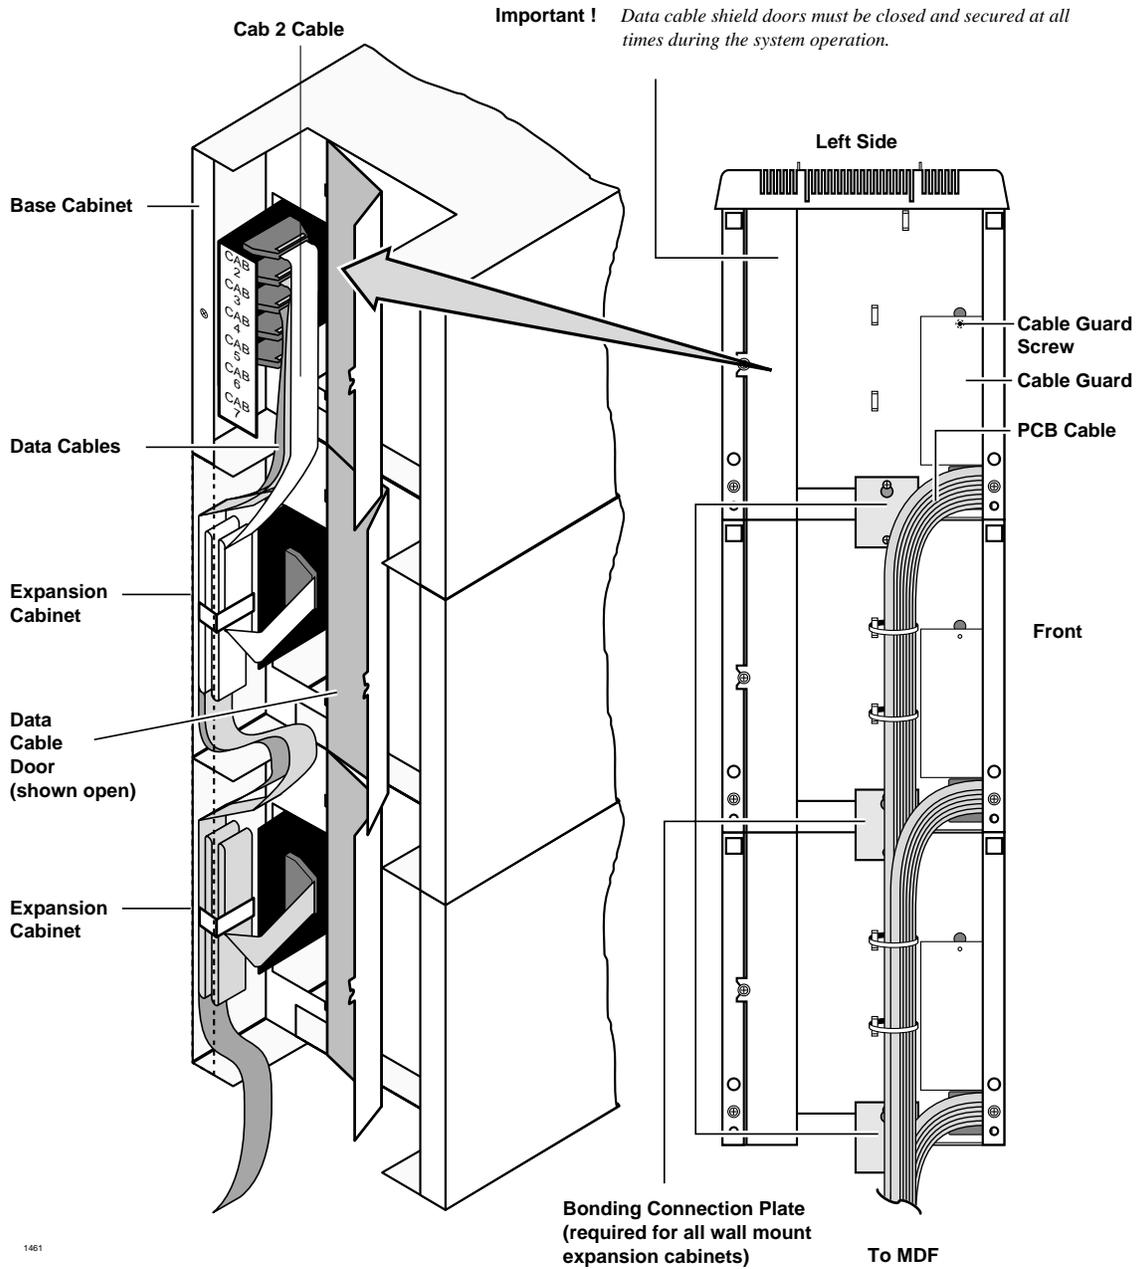

Figure 5-10 Left Side View of Cabinet Interior
6. Install PCBs and PCB cabling.	Figures 5-10, 5-12, and 5-21 .
- ♦ Connect the Expansion Cabinet data cable to the “CAB. 2” data cable connector on the Base Cabinet (Figures 5-10 and 5-28).
12. Connect the data cable of each Expansion Cabinet to the applicable data cable connector on the Base Cabinet (Figures 5-10 and 5-28). (The data cable from the first Expansion Cabinet should be connected to the connector labeled “CAB. 2”, the cable from the second Expansion Cabinet to the “CAB. 3” connector, etc.)
9. Connect the data cable of each Expansion Cabinet to the applicable data cable connector on the Base Cabinet (Figures 5-10 and 5-28). The data cable from the first Expansion Cabinet should be connected to the connector labeled “CAB. 2”, the cable from the second Expansion Cabinet to the “CAB. 3” connector, etc.)